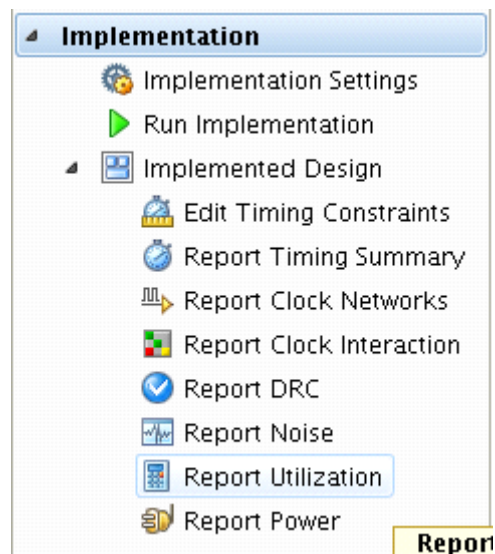

Figure 63: Generating a Resource Utilization Report
**Note:** The information in Table 9 is taken from the Vivado tools by selecting **Open Implemented Design** and then clicking **Implemented Design > Report Utilization** (Figure 63, page 53).